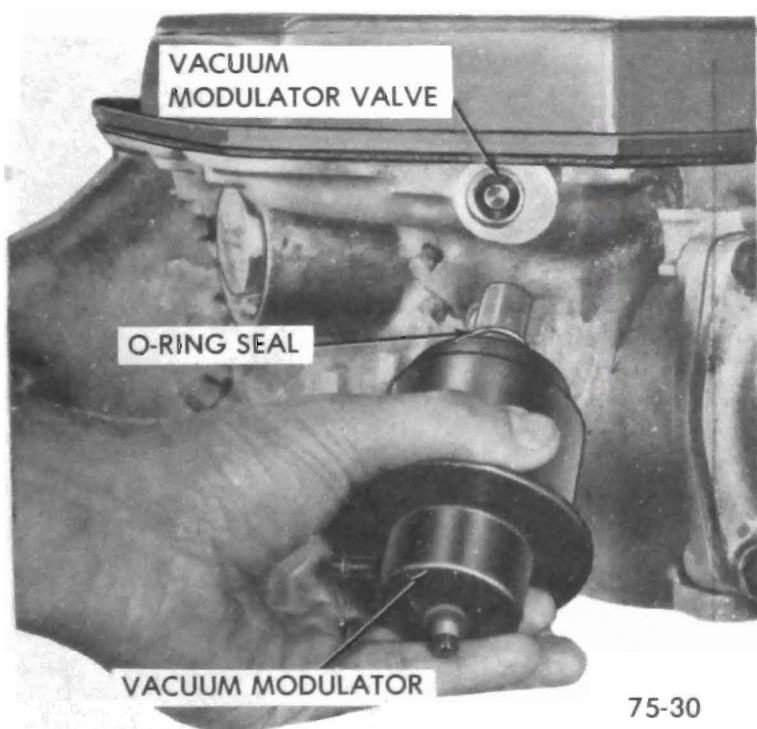

Figure 75-281
3. Install vacuum modulator valve. See Figure 75-281. Lubricate "O" ring seal to prevent damage.